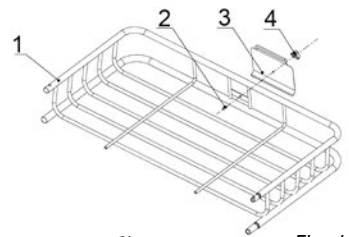

Fig. 1
1. Lay the rear platform (#1) flat on the floor. Position the back plate (#3) with the flange under the frame. Align the bolt hole in the plate and frame. Insert a M6*25 bolt (#2) through the frame and plate. Secure and tighten with a knob (#4)(Fig. 1).